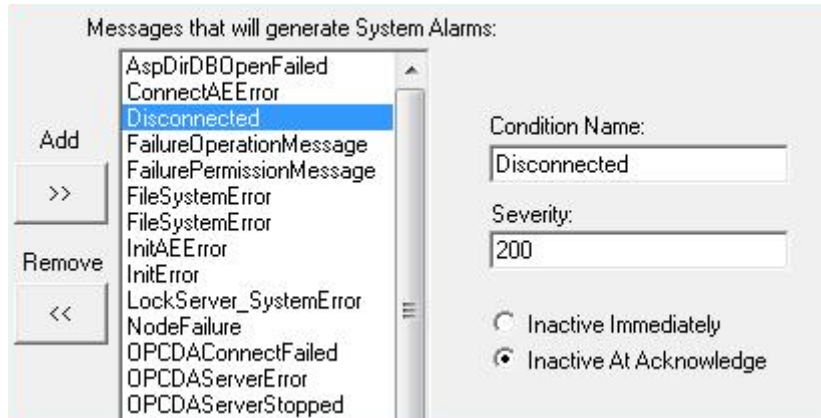

Figure 65. Messages that will generate System Alarms
4. Select Disconnected in the Message that will generate System Alarms list, see Figure 65.